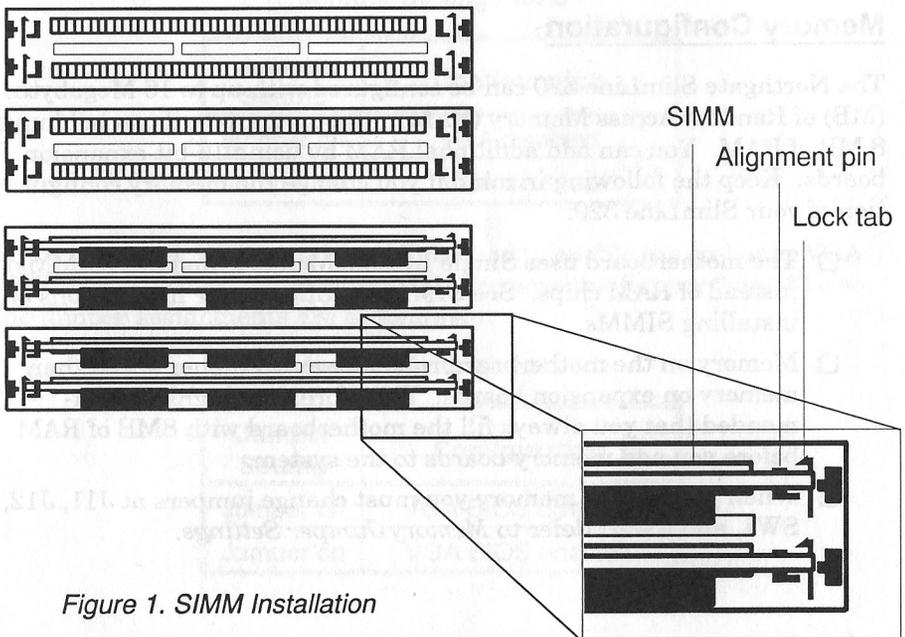

Figure 1. SIMM Installation
- ❑ To install a SIMM, simply align the SIMM edge connector in the motherboard socket and push the top edge of the SIMM forward until the plastic alignment pins snap into the holes on the SIMM. Removing the SIMMs can be tricky. Use your fingernails or a small screwdriver to gently pull the locking tabs out, allowing the SIMM to slip off of the alignment pins (see Figure 1). Then, gently lift out the SIMM.